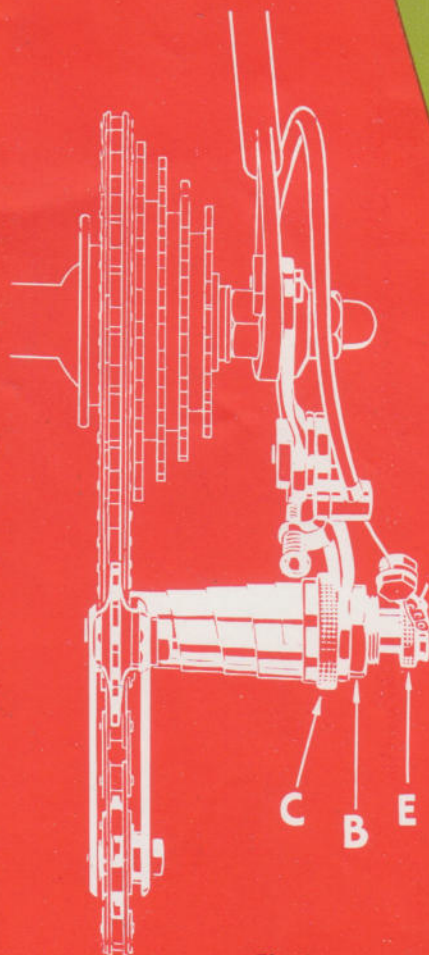

Fig. 2
2. Line up Jockey sprockets with largest cog (low gear) as in Fig. 2. To move sprockets towards wheel, slacken lock nut "B" and tighten castle nut "C." To move sprockets away from wheel, slacken castle nut "C" and tighten lock nut "B." When sprockets are in line, finally tighten these two nuts. The gear should not appear twisted or bent—see illustrations.